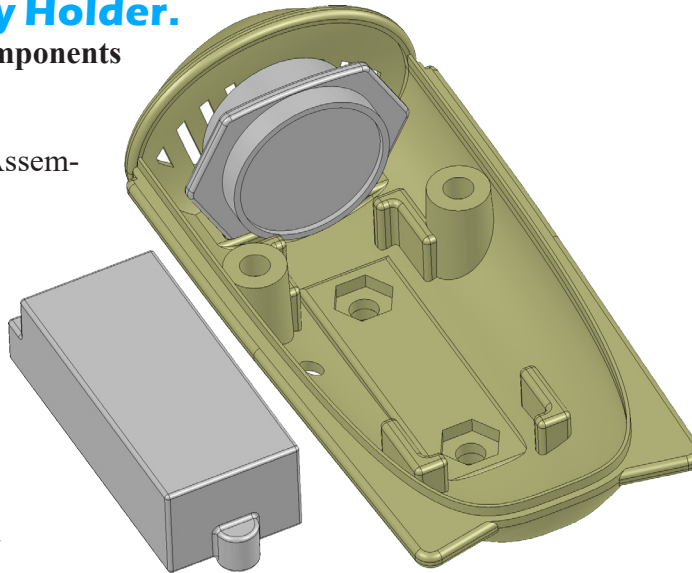

Fig. 20
Step 3. Place the **Battery Holder**, **Fig. 20**.